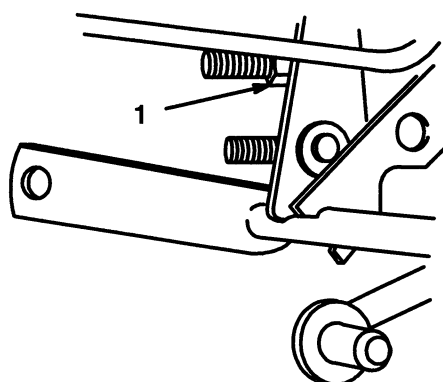

Figure 7
1. Adjust by turning transport height nut (Fig. 7) on lift mechanism clockwise to raise or counterclockwise to lower mower.